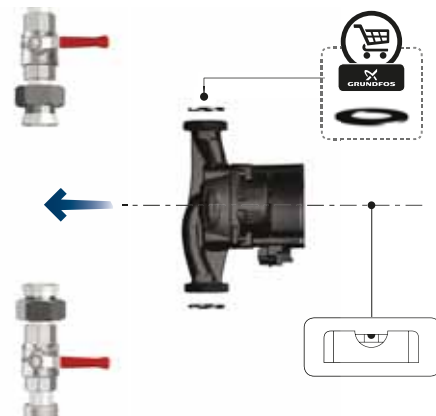

Fig. 2 Pump installation
2. Fit the two gaskets supplied with the pump when you mount the pump in the pipe. Install the pump with a horizontal motor shaft within  $\pm 5^\circ$ . See fig. 2. See also section 3.3 Control box positions.